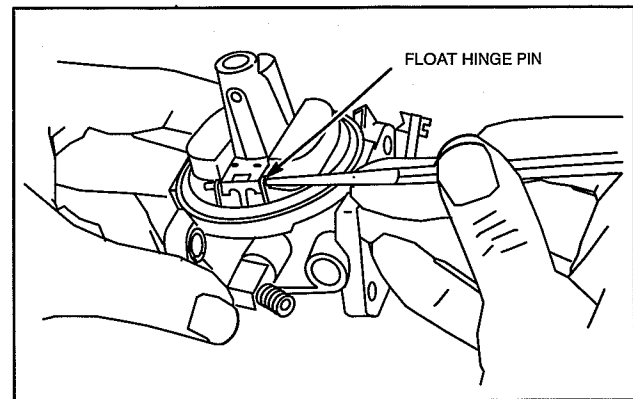

Fig. 6 – Remove Float
3. Remove float hinge pin, float and inlet needle, Fig. 6.